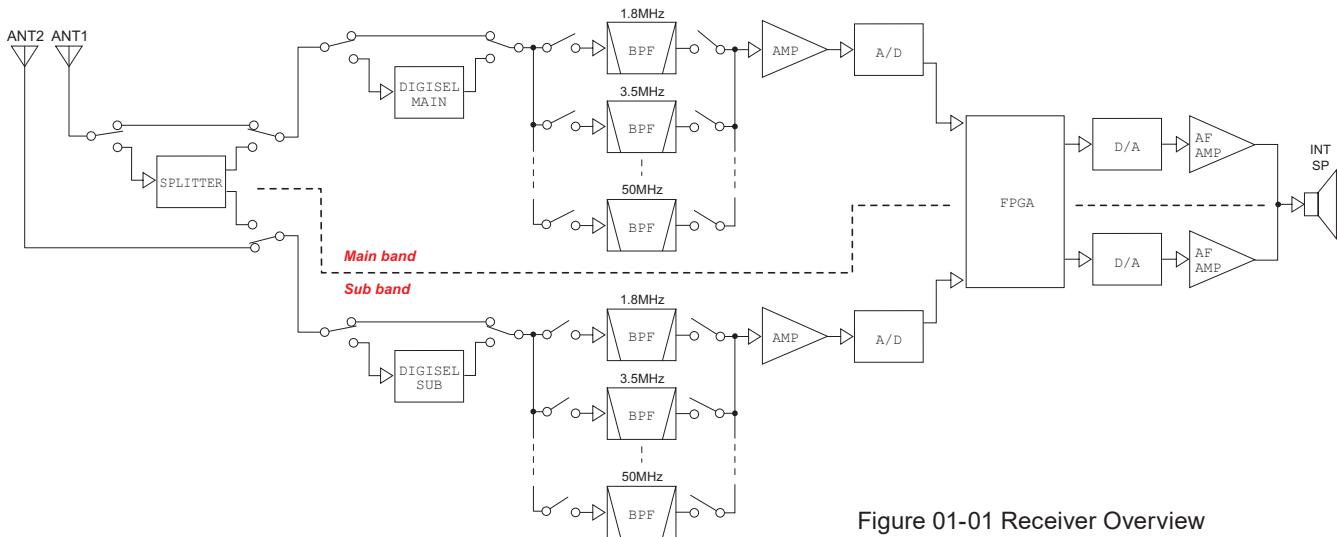

Figure 01-01 Receiver Overview
As you can see in the receiver block diagram, shown in Figure 01-01, the design from the antenna, through the bandpass filter (BPF), to the RF preamplifier is equivalent to a conventional (superheterodyne) radio. However, after the RF amplifier, there is an A/D converter instead of a mixer. Thus, as mentioned above, the RF signals are converted to a digital bit stream as is, without converting the RF signals to an intermediate frequency (IF). This is the reason why this architecture is called RF direct sampling.
The biggest merit of the RF direct sampling method is that all processing takes place in the digital domain. In the superheterodyne system, analog signals are processed in the frequency conversion (mixing) process. Since this frequency conversion uses the nonlinear distortion region of the analog element in the mixer, unnecessary nonlinear distortion occurs. On the other hand, with the RF direct sampling system, there is no analog mixer, as shown in figure 01-01 on the previous page. In other words, it is a circuit that generates no unnecessary nonlinear distortion.